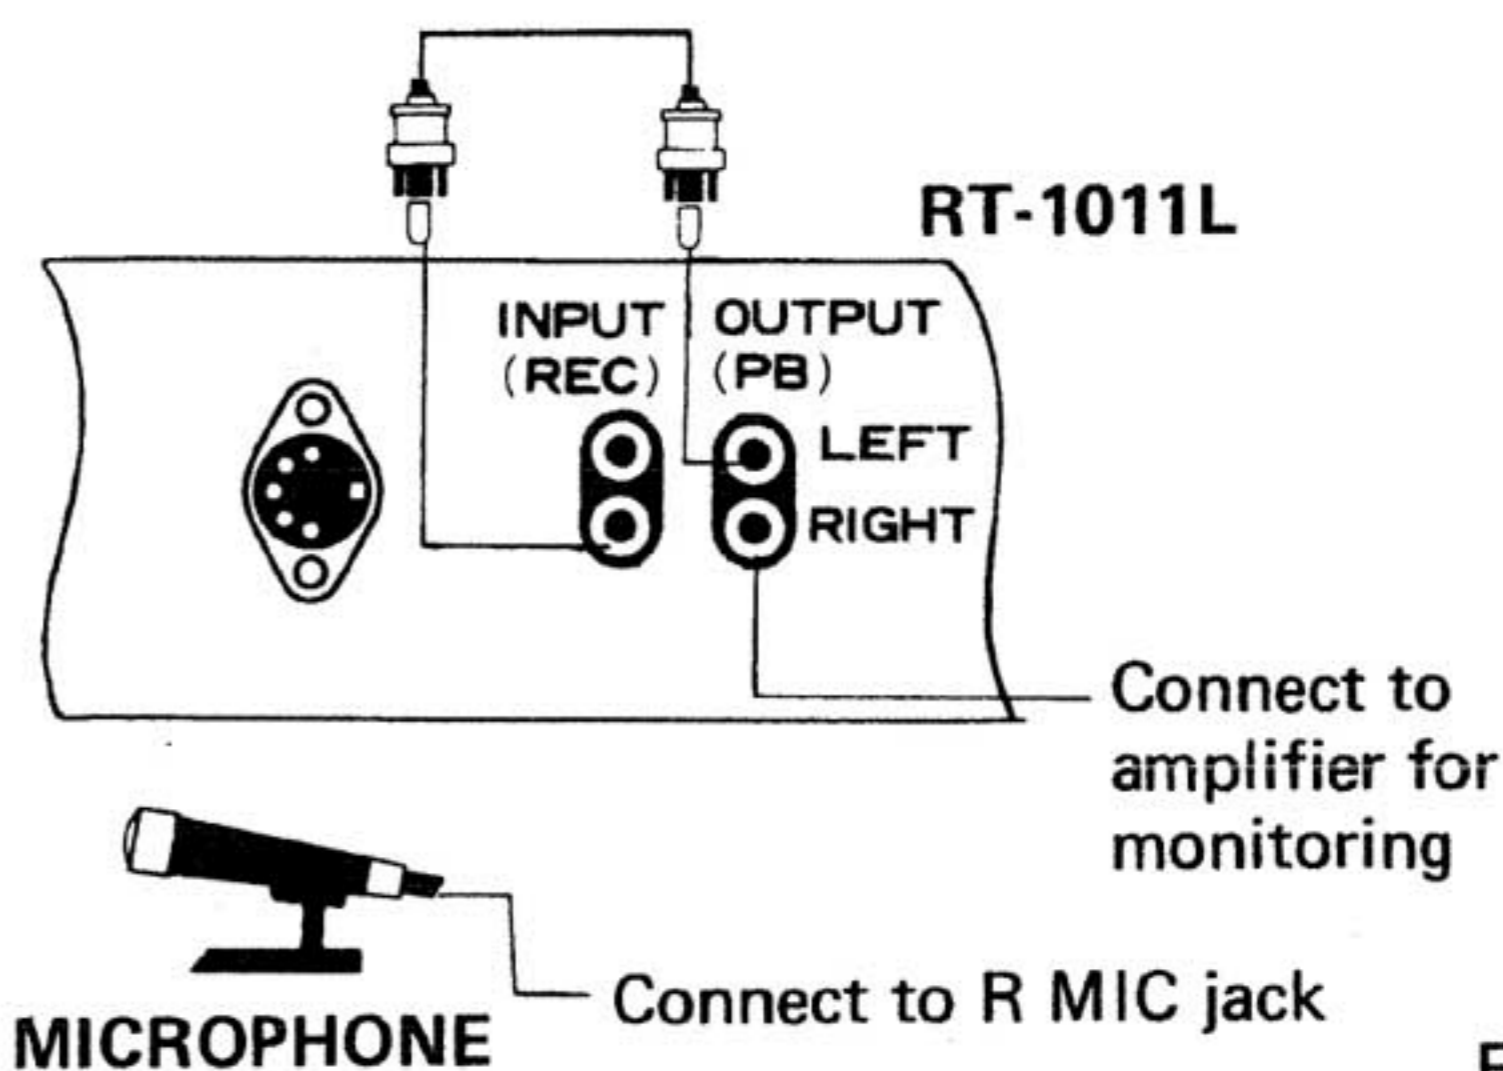

Fig. 43
1. Connect LEFT OUTPUT (PB) jack to RIGHT INPUT (REC) jack (Fig. 43).
3. Adjust recording levels with the MIC and LINE recording level controls. If the playback output of the RT-1011L is too high, adjust it with the OUTPUT level control. Table 2 shows level meter deflection and OUTPUT (PB) jack signal according to MONITOR switch setting.